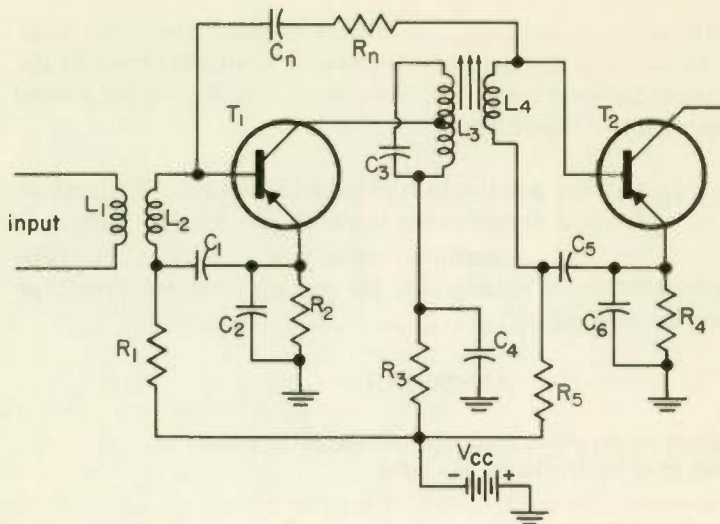

Fig. 12 A typical r-f transistor amplifier stage with neutralization.
A typical transistor r-f amplifier stage is shown in Fig. 12. Resistor R_1 sets the base bias current to the correct value. Capacitor C_1 makes it possible to apply the incoming signal between base and emitter. The purpose of R_2 is to stabilize the base bias so it will not vary widely with temperature changes. C_2 bypasses the collector-emitter signal current so that it is not attenuated by R_2 . The tank circuit C_3L_3 forms the collector resonant circuit, which is tuned by adjusting the magnetic core. L_4 couples to this tuned circuit to feed the following stage.
1. Transistor r-f amplifiers generally require (a) _____ . Also in transistor r-f amplifiers, a slight mistuning may cause a stage to (b) _____. In the circuit of Fig. 12 component (c) _____
2. In working on a receiver you find it necessary to replace a transistor in an r-f amplifier circuit similar to that of Fig. 12. You must use another type of transistor because an exact replacement is not available. After you install the new transistor you find some instability (indicated by howls) over the tuning range. This indicates the need for readjustment of the _____.